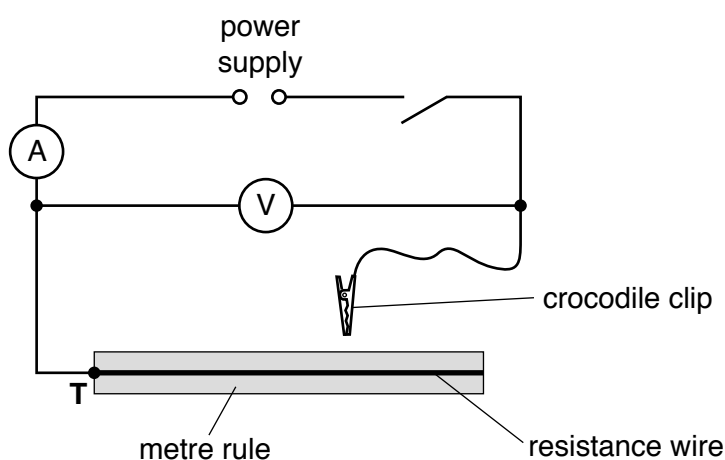

Fig. 3.1
- (v) Sufficient connecting leads to set up the circuit shown in Fig. 3.1.
2. The circuit is to be set up for candidates as shown in Fig. 3.1, with the crocodile clip not connected to the wire.
Ensure that the circuit is connected as shown in Fig. 3.1. Check that is working, by connecting the crocodile clip at the 90 cm mark.